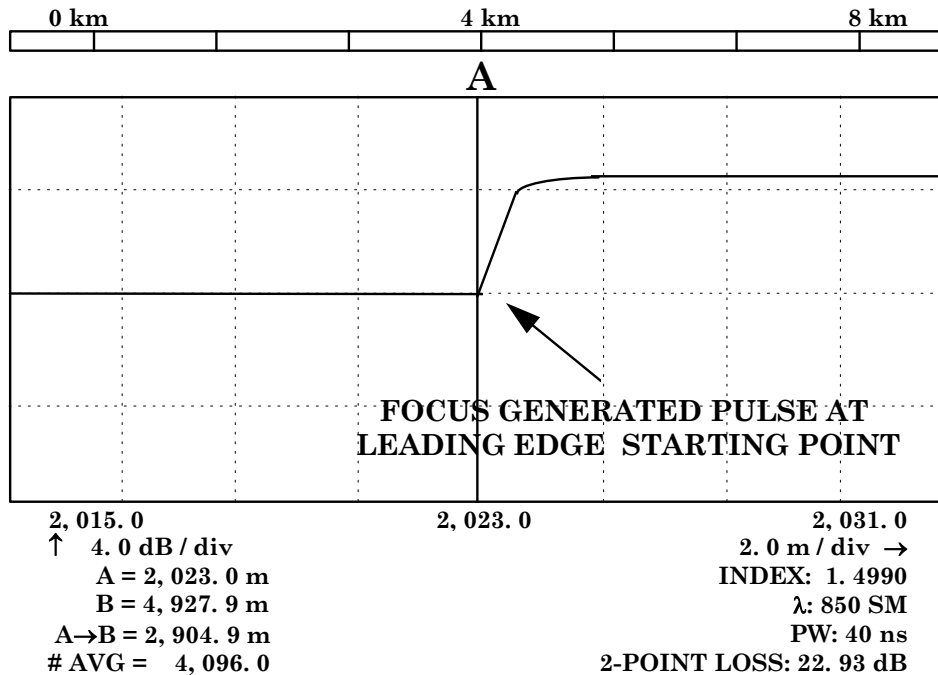

Figure 5. Example of cursor A on FOCUS generated pulse leading edge starting point (TD-260C).
(10) Press **VERT EXP** pushbutton as necessary to display **4.0 dB/div** on TI.
(11) Adjust **CURSOR A** control as necessary to position cursor A on FOCUS GENERATED PULSE LEADING EDGE STARTING POINT (fig. 5).